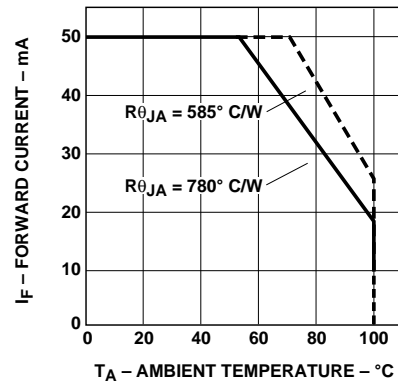

Figure 4. Maximum Forward Current vs. Ambient Temperature. Derating Based on T_{JMAX} = 130 °C.
1. Derate linearly as shown in Figure 4.